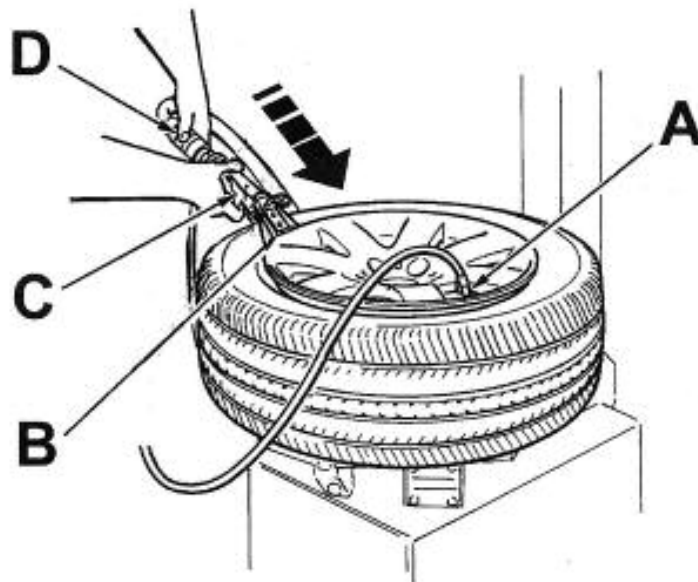

Figure 14
4. Position the outlet of the tubeless inflation kit (Nozzle) (B) in a position directly opposite the inflation valve (A), inserting the outlet between the rim flange and tire bead, resting on the edge of the rim. Figure 14